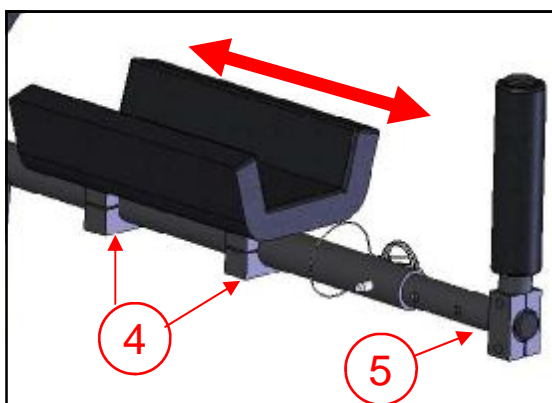

Figure 19C
4. Forearm support can be adjusted by loosening the four Allen screws (4). Armhold angle can be adjusted by loosening the Allen screws 5. Figure 19C.